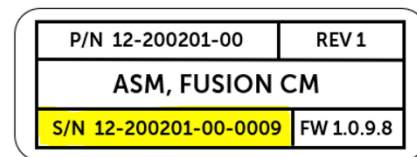

Figure 78 - Fusion Product Label
- 2) Select the Fusion device's serial number from the serial number drop-down menu (Figure 78 - Fusion Product Label). The Fusion device's serial number is found on its product label (Figure 78 - Fusion Product Label).
- Check the serial number on the Fusion device’s product label (Figure 78) against the number selected in Interlock Builder.